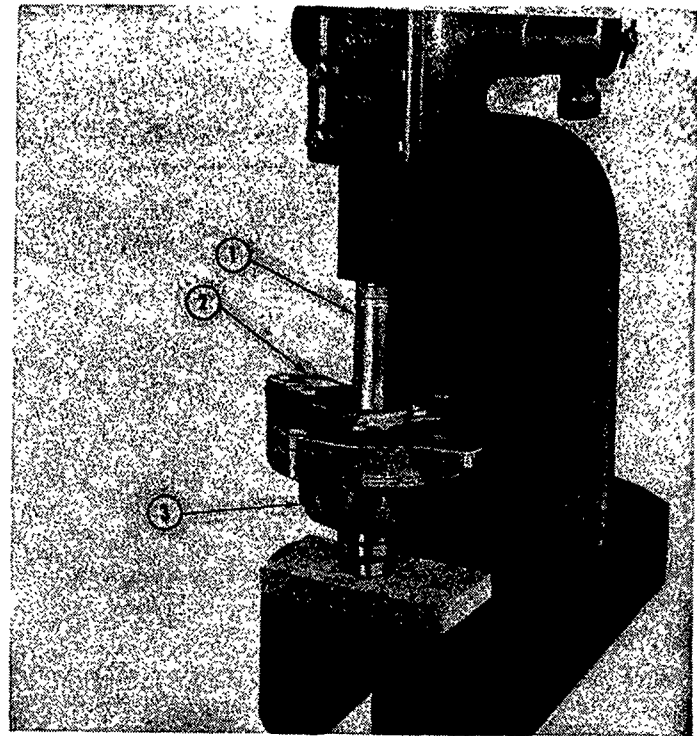

Figure 57
10. Support the bottom (rear bearing area) of the rotor in a press, then place the front housing and bearing assembly over shaft, as shown in Figure 57.
11. Using a 11/16 inch (17.46 mm.) deep socket or sleeve that contacts the inner bearing race only, press the front housing and bearing over the rotor shaft until the bearing contacts the shoulder on the shaft. See Figure 57.